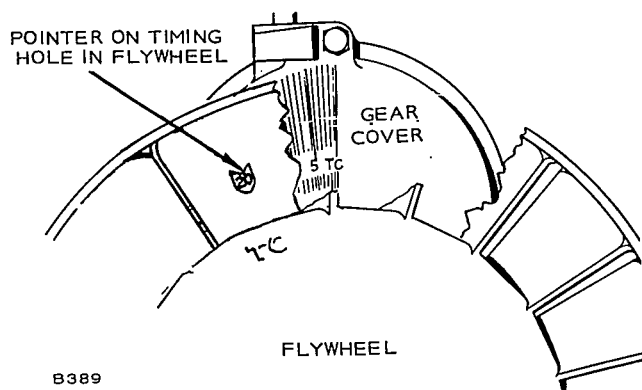

FIGURE 12. FLYWHEEL TIMING HOLE
2. Start the engine and check the timing. The pointer on the flywheel should line up with the 20° mark on the cover. The timing hole through the flywheel and the timing marks on the timing gear cover can be seen by looking through the flywheel blower screen. See Figure 12.